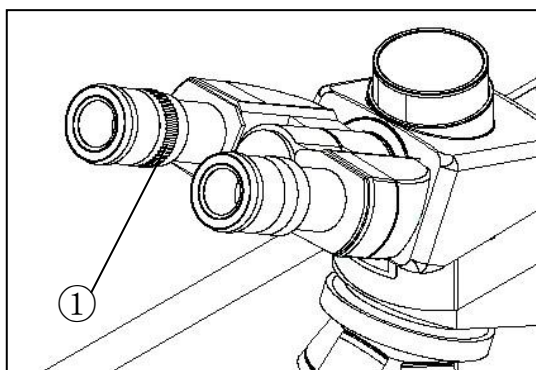

Fig.23
3.2.4 Adjusting the Diopter (Fig.23)